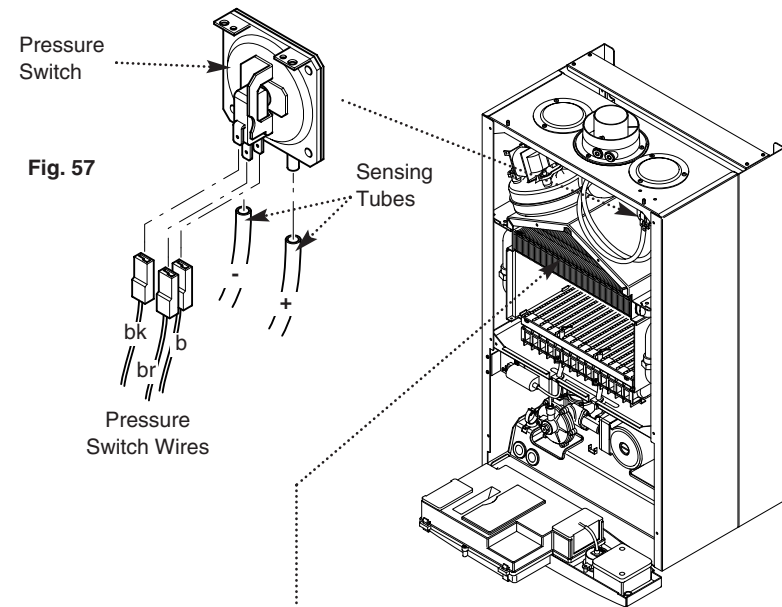

Fig. 57
1. Note the positions of the two sensing tubes and three wires and remove them (Fig. 57).